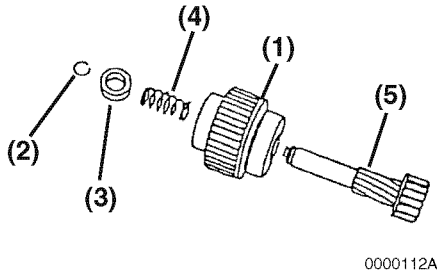

Figure 10-29
1. Apply NPC-FC6A grease to the pinion shaft. Assemble the pinion shaft (**Figure 10-29, (5)**), pinion clutch assembly (**Figure 10-29, (1)**), return spring (**Figure 10-29, (4)**) and pinion stop (**Figure 10-29, (3)**). Install the retaining ring (**Figure 10-29, (2)**) in groove in the pinion shaft. Slide the piston stop over the retaining ring.